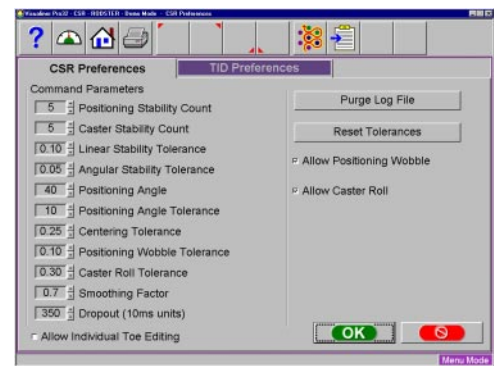

Figure 3-63
4. Use the Up/Down pointers to change the values. (Figure 3-63)